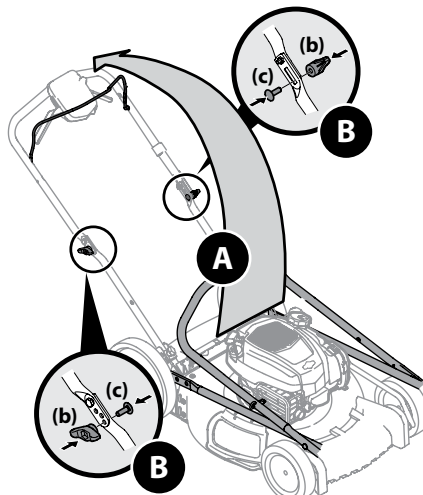

Figure 2-2
4. Gently lift and pivot the upper handle into the operating position as shown in Figure 2-2. Make certain the lower handle is seated securely into the handle brackets.
5. Reattach wing knobs (b) and carriage bolts (c) removed in Step 3 into lower holes of handle as shown in Figure 2-2.